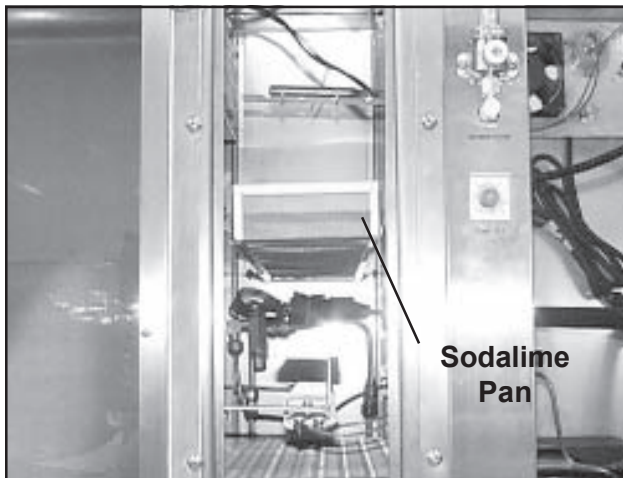

Figure 73. Sodalime Pan in Filter/Fans Compartment
2. Carefully, and without spilling the contents, lift up, and remove the Sodalime pan (*Figure 73*).